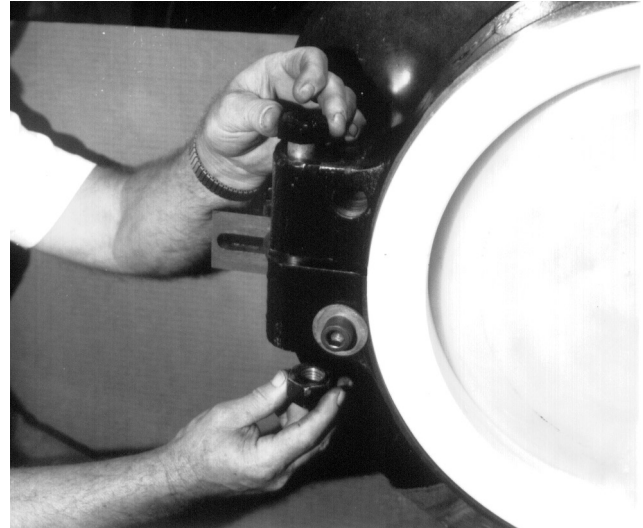

Figure 18
9. **All Sizes:** Install the four body bolts (1A) and finger tighten the nuts (1B) maintaining an even gap between body halves (Figure 18). See note – Table 6.